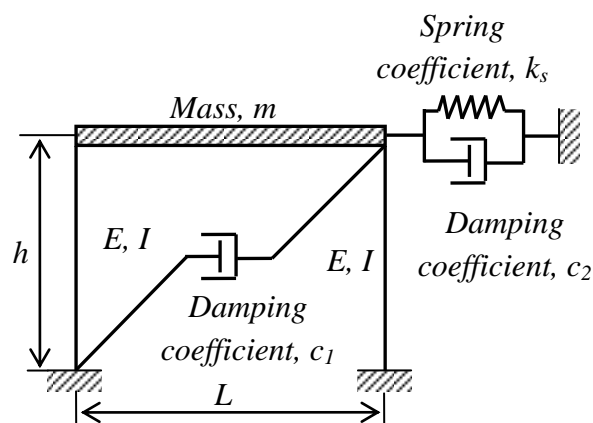

Figure 1 / *Rajah 1*
- (b) A vibration control device consists of a spring and viscous damper is connected to a single degree-of-freedom system as shown in **Figure 1**. Formulate the equation of motion for the system. E and I are the modulus of elasticity and moment of inertia, respectively.